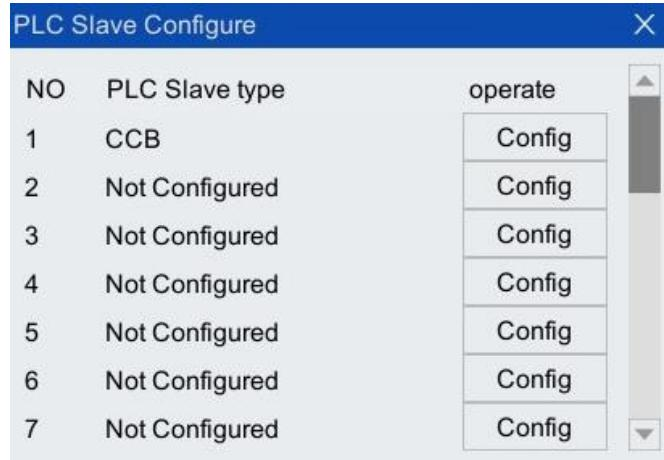

Figure 18-22 [PLC slave configuration] interface
Step6. Turn on the control cabinet and click [System/System Configuration/PLC Slave Configuration] on the teach pendant main interface to enter the [PLC Slave Configuration] interface. As shown in Figure 18-22.